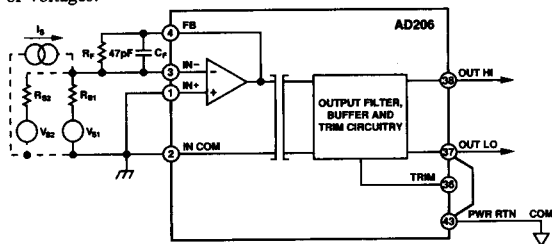

Figure 14. Summing or Current Input Configuration Non-inverting Mode of Operation
**Inverting, Summing or Current Input Configuration.** Figure 14 shows how the AD206 can measure currents or sum currents or voltages.
The circuit of Figure 14 can also be used when the input signal is larger than the  $\pm 10$  V input range of the isolator. For example, suppose that in Figure 14, only  $V_{S1}$ ,  $R_{S1}$  and  $R_F$  are connected to the feedback, input and common terminals as shown by the solid lines in Figure 14. Now, a  $V_{S1}$  with a  $\pm 50$  V span can be accommodated with  $R_F = 10$  k $\Omega$  and a total  $R_{S1} = 50$  k $\Omega$ .